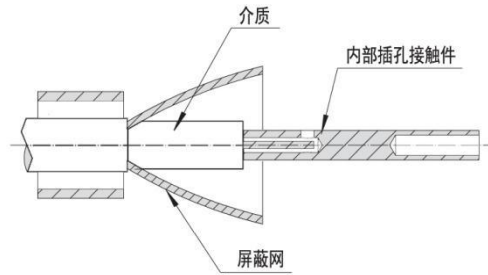

Figure 2.3
- ③ Open the shield layer outward and peel off the medium part of the cable
- ④ As shown in Figure 2.3, by passing the central conductor through the socket, the cable central conductor must be seen through the observation hole on the socket, and the socket must reach the back end Insulator